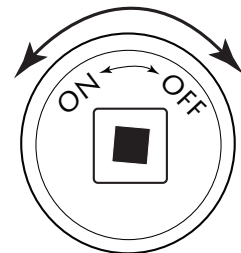

Figure 4. Key Valve Face
1. Insert key into shut-off valve and secure into square end (see Figs. 4 & 5).